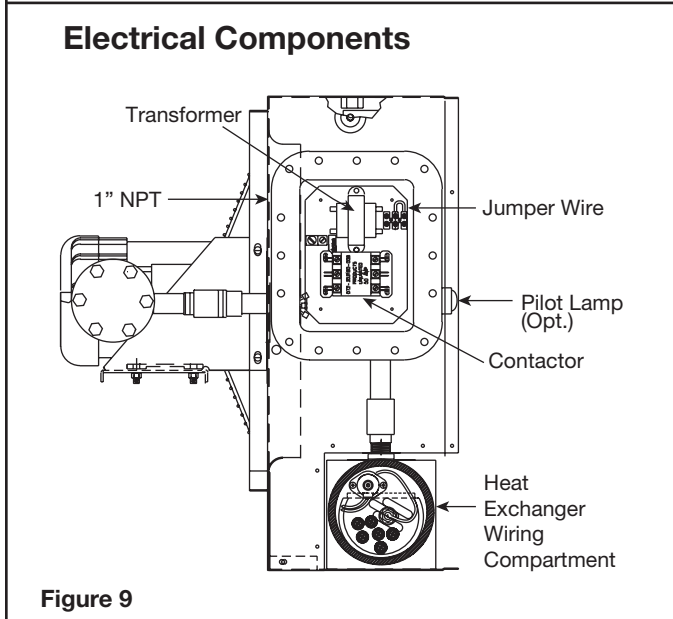
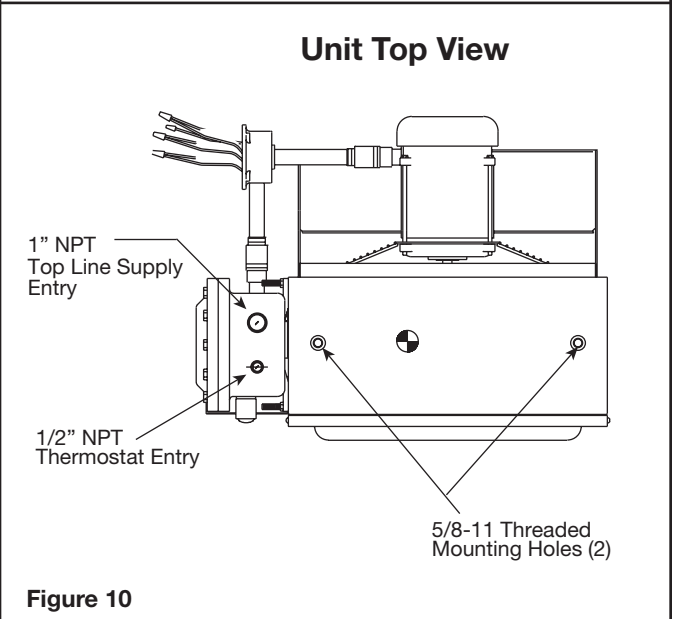

Figure 9
Figure 10
1. Loosen and remove bolts securing the main terminal enclosure cover on side of unit. Connect heater to line supply wires at the box lugs located on the contactor according to the voltage and frequency specified on the nameplate (see Figure 9). Refer to the appropriate wiring diagram which also appears on the inside cover of this enclosure (see Table B and diagrams on page 6).
5. Either of two 1 NPT rigid conduit openings with integral stops may be used for connection to supply line. (See Figure 9 and 10 for locations) Use only NEC approval hazardous locations means of wiring such as mineral insulated cable and fittings or rigid conduit and seal fittings located as required by installation codes.
8. To operate heaters from an externally mounted hazardous location thermostat, a terminal block is provided for connection (Figures 9 and 10). Remove the factory installed jumper across T2 and T3 on the terminal strip. Wire the thermostat contact leads to these terminals. The built in control transformer supplies the unit with either 24V or 120V for internal unit operation. This voltage will appear across the thermostat contacts when they are open. The minimum thermostat contact rating should be 1 amp @ 120 VAC. Refer to nameplate for control voltage of unit. The 1/2 NPT conduit wiring entry on top of the terminal enclosure should be used to wire the thermostat to the heater (Figure 10).
9. Protection against overheating is provided by a high temperature cutout located within the heat exchanger wiring compartment. (Figure 9) Activation of the control will open the control circuit and energize the pilot lamp (if supplied). If normal airflow is restricted, or stopped, the unit will be cycled off by the high temperature cutout. The high temperature cutout is also designed to shut down the unit completely if the fluid level is low or other heater malfunction occurs.